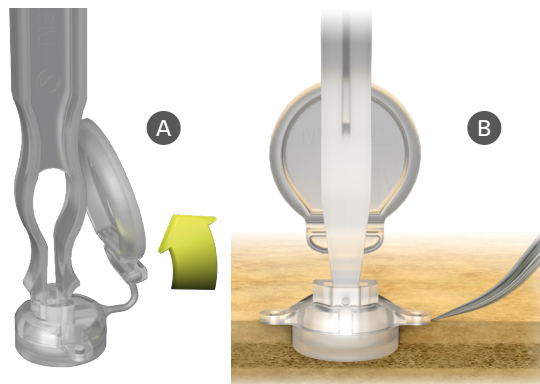

Figure 14: FP-Sizer: Bending the transition of the FP-Sizer (A)
If the BCI 602 Lifts (1mm) are not used, the bone bed needs to be 4.5 mm in depth. Make sure the fixation wings are in flat contact with bone. To verify the contact, connect the T-Sizer to the FP-Sizer. The handle can be used for convenient handling. It might be helpful to bend the coil section of the Footprint- and Transducer-Sizer Assembly during creation of the bone bed as shown in Figure 14 (A). To check if the fixation wings are in flat contact with bone, use a surgical instrument like a needle as shown in Figure 14 (B).